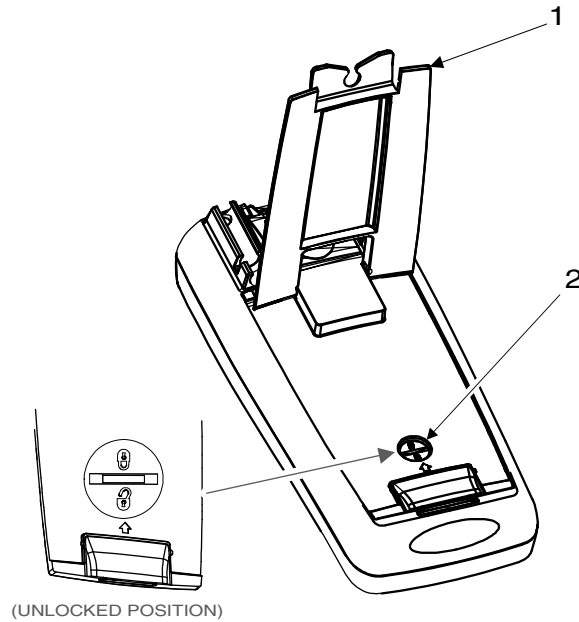

Figure 1. Multimeter Rear Cover Locking Device
1. Raise the multimeter stand to gain access to the multimeter rear cover locking device located on the multimeter rear panel (Figure 1., Item 1).
2. Turn the multimeter rear cover locking device (Figure 1., Item 2) counter-clockwise until the "unlock" symbol on the locking device aligns with the arrow on the rear multimeter cover. This will unlock the multimeter rear cover.